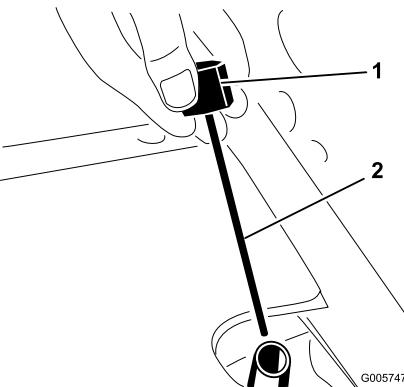

Figure 30
2. Unscrew dipstick cap (Figure 30) from the filler neck and wipe it with a clean rag. Screw dipstick cap finger tight onto filler neck. Unscrew the dipstick and check level of fluid. If level is not within 1/2
inch (13 mm) from the groove in the dipstick (Figure 30), add enough fluid to raise level to groove mark. Do not overfill by more than 1/2 inch (13 mm) above groove.